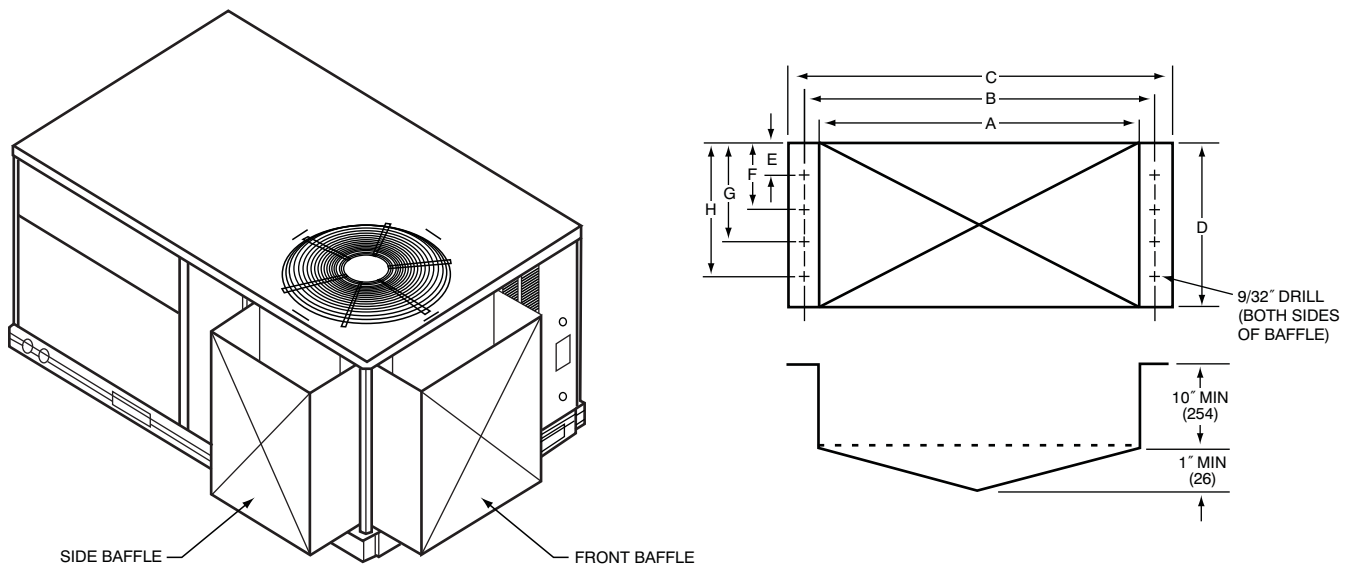

Fig. 20 – Wind Baffles – 3 to 6 Ton Units
9. Wind baffles are required to prevent wind cross-currents from causing abnormally low condensing temperatures. Wind baffle fabrication details are described in Fig. 20 and 21.